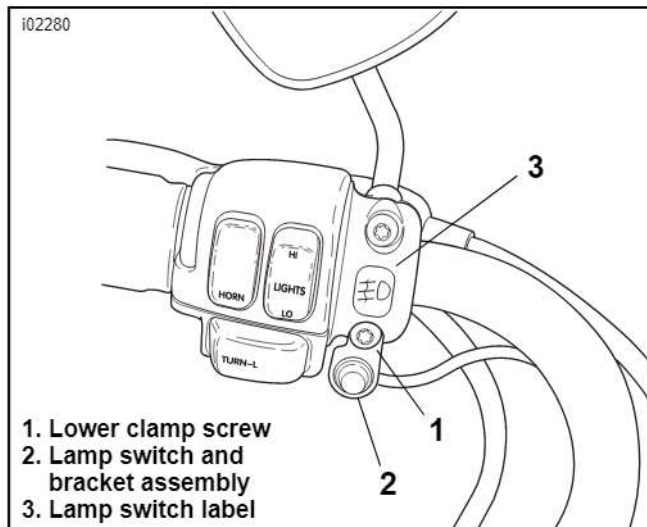

Figure 6. Install the Lamp Switch on the Clutch Control Clamp (1996 and Later Shown)
12. See Figure 6. Remove the lower screw (1) and washer from the clutch control clamp, and install the lamp switch and bracket assembly (2). Install the screw and washer and tighten to 60-80 **in-lbs** (7-9 Nm).